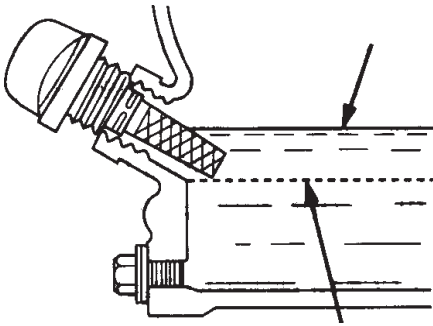

Figure 6. Engine Oil Dipstick (Oil Level)
4. If the oil level is low (Figure 6), fill to the edge of the oil filler hole with the recommended oil type (Table 3). Maximum oil capacity is .079 gallons (0.3 liters)